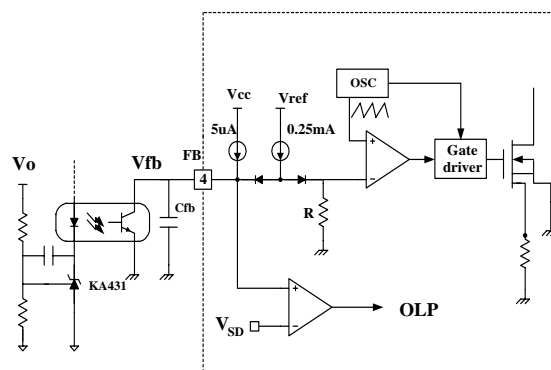

Figure 8. PWM and feedback circuit
2. Feedback Control : The FSD200/210 are both voltage mode devices as shown in Figure 8. Usually, a H11A817 optocoupler and KA431 voltage reference (or a FOD2741 integrated optocoupler and voltage reference) are used to implement the isolated secondary feedback network. The feedback voltage is compared with an internally generated sawtooth waveform, directly controlling the duty cycle. When the KA431 reference pin voltage exceeds the internal reference voltage of 2.5V, the optocoupler LED current increases pulling down the feedback voltage and reducing the duty cycle. This event will occur when either the input voltage increases or the output load decreases.